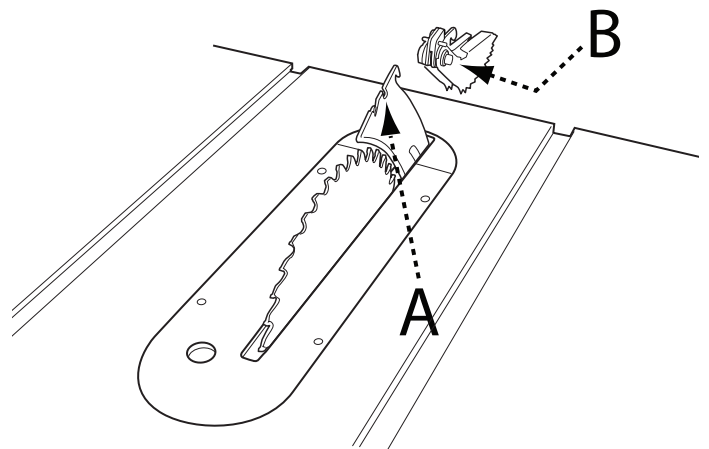

FIGURE 9
2. The riving knife comes installed in the low, non-through cutting position. To attach the anti-kickback pawls and blade guard assemblies, the riving knife must be in the raised position as shown in Figure 9. To raise and lower the riving knife, see Riving Knife Height Settings on page 18.
1. Refer to Figure 9 and locate the anti-kickback pawls mounting slot (A) in the middle of the top edge of the riving knife.
2. Slide slot in the middle of the anti-kickback pawls assembly along the top of the riving knife until the stem (B) locates the center slot on the riving knife.
3. Depress the stem on the anti-kickback pawls assembly (B) to allow the assembly to drop into the slot. Push down on the anti-kickback pawls assembly until it snaps into place and locks. Release stem. **NOTE:** Pull up on the anti-kickback pawls to make sure it is locked in place.